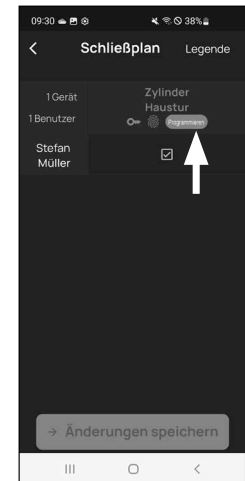

Fig. 4
- 5 If any changes have been made to the locking plan, the display of the respective cylinder appears red and the „Program“ button is displayed. This indicates that the settings have not yet been transferred to the cylinder. To do this, tap the red „Program“ button for the respective cylinder (Fig. 4).